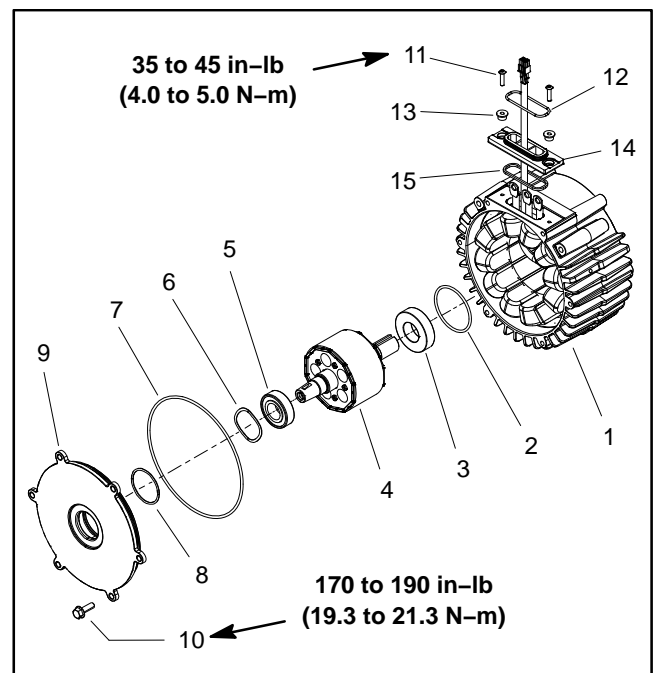

Figure 111
B. Position collar (item 15) to generator fan and align three (3) holes in collar with tapped holes in fan.
C. Insert three (3) torx screws (item 18) through collar and into threaded holes in fan.
F. Locate and retrieve woodruff key (item 22).
9. Remove retaining ring (item 5), wave washer (item 4) and flocked seal (item 3) from generator shaft. Note orientation of flocked seal for assembly purposes.
10. Remove internal generator assembly components (Fig. 111):
A. Remove six (6) flange head screws that secure cover to housing. Leave cover on rotor shaft.
2. Install internal generator assembly components (Fig. 111):